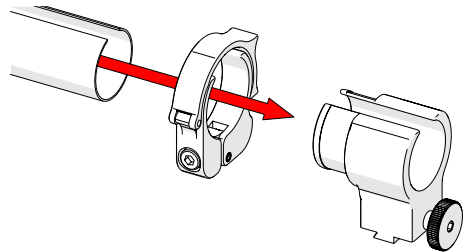

Fig. 69 - Slide tube around mount
2. Slide the clamp around the tube first, then slide the tube around the outside of the cable management dovetail mount (Fig. 69). Align the zipper opening and the cable management dovetail mount opening.